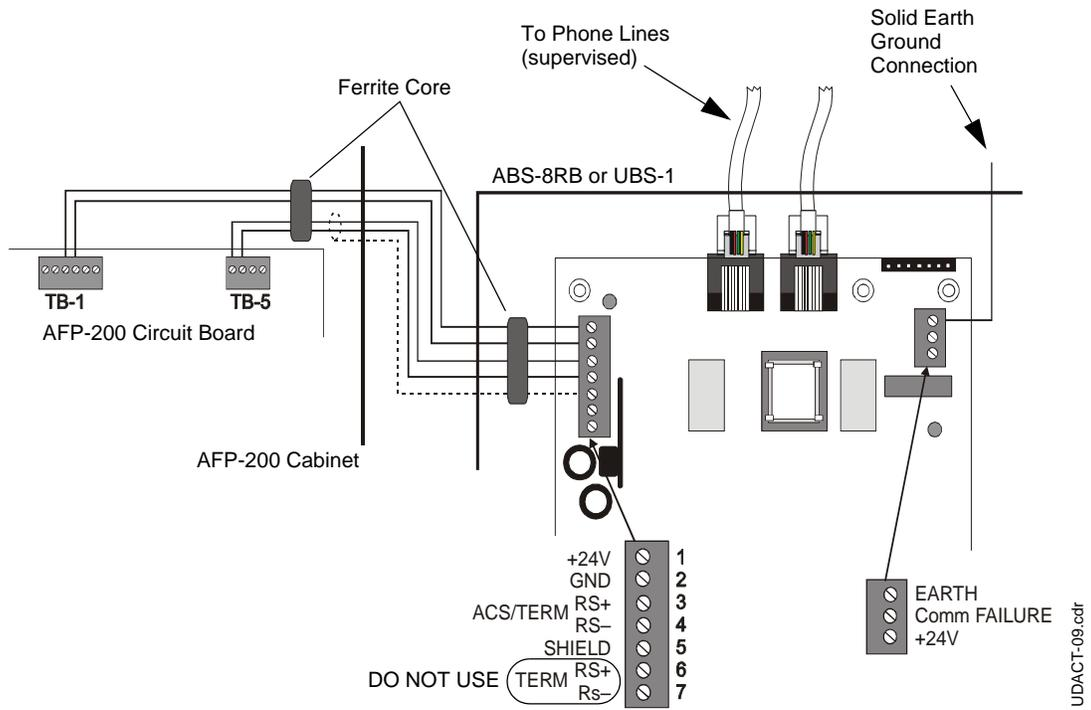

Figure B.1 UDACT and AFP-200
Refer to Figure B.1 on page 69.
2. Recommended wire is 12 AWG (3.25mm²) to 18 AWG (0.75mm²) twisted pair, shielded cable. Connect only one end of shield: a) shield may be connected to cabinet (earth ground) at fire alarm panel, or b) shield may be connected to TB1 Terminal 5 (Shield) at UDACT as shown in Figure B.1.